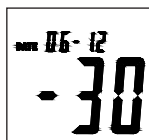

Fig. 1
1. Press and hold the **SETUP** button. While holding the **SETUP** button, press and hold the **Power on/off** button. When the **TIME** symbol appears on the display, release the **SETUP** button. The meter is now in the time and date setup mode (see Fig. 1).